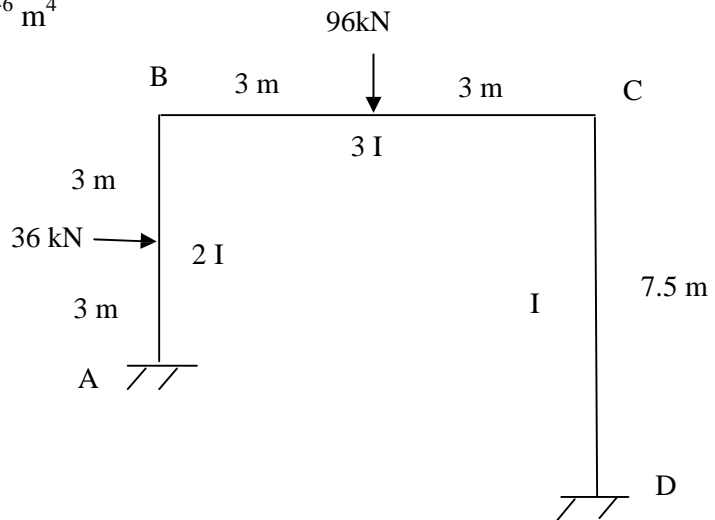

Fig.3
- b Analyse the rigid frame loaded as shown in Fig.3. using stiffness method (10)